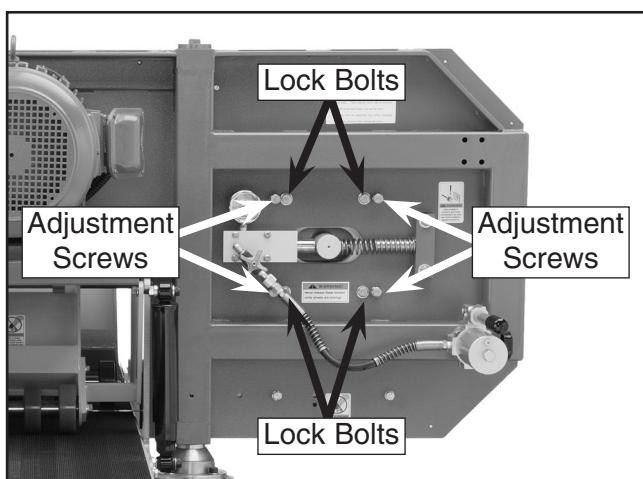

Figure 47. Tension wheel adjustment bolts.
- Look at the backside of the wheel guard and learn the controls shown in **Figures 47 & 48** by reading the text that follows.